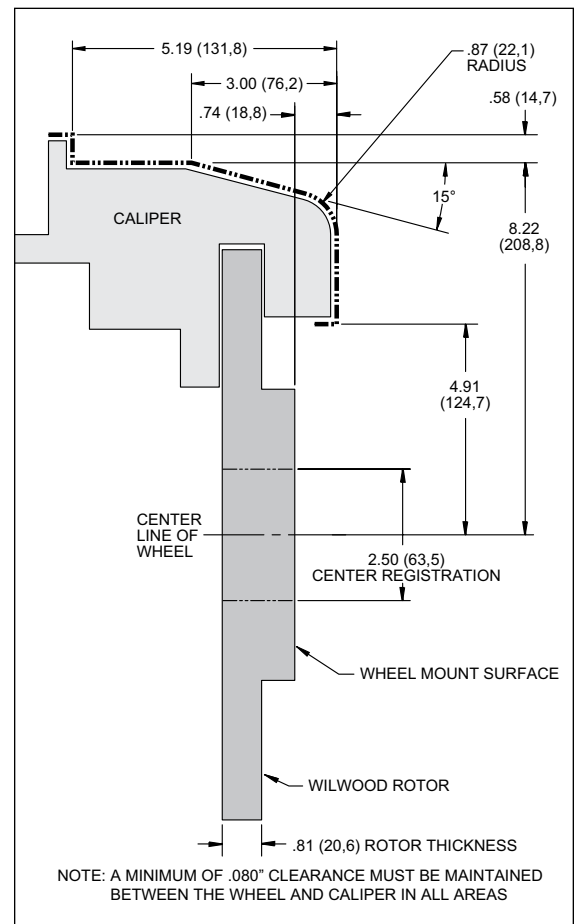

Figure 3. Wheel Clearance Diagram
- Review the wheel clearance diagram (Figure 3, page 3) to verify that there is adequate clearance with the wheels you will be using with the installation.
- Verify your wheel clearance using Figure 3.